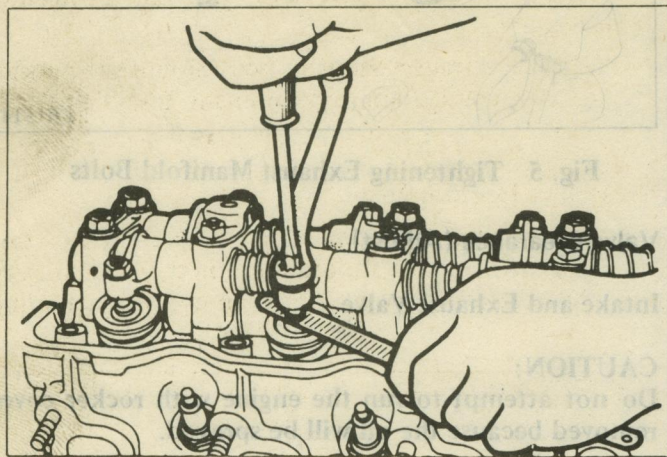

Fig. 6 Adjusting the Valve Clearance
(6) Adjust valve clearance, if necessary, by loosening locknut and turning adjusting screw. Then tighten locknut and recheck valve clearance. (Fig. 6)
(7) Repeat for other cylinders as per table below: